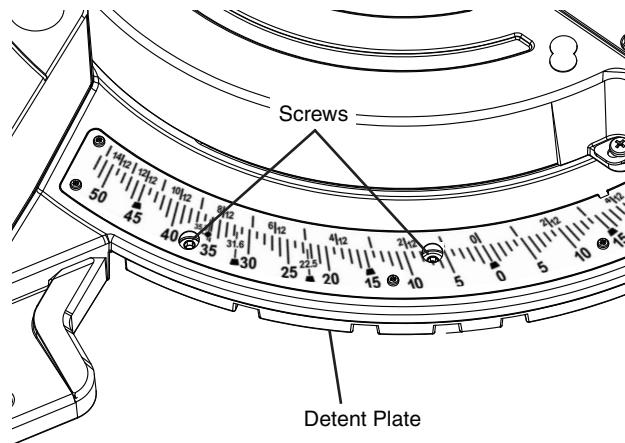

Figure 18
- Look for four round holes in the miter scale plate. In each hole is a screw. Use the small end of the 6/4mm hex key or a 4mm hex key to loosen all four screws 1 to 2 turns. This will loosen the miter detent plate (see Figure 18).